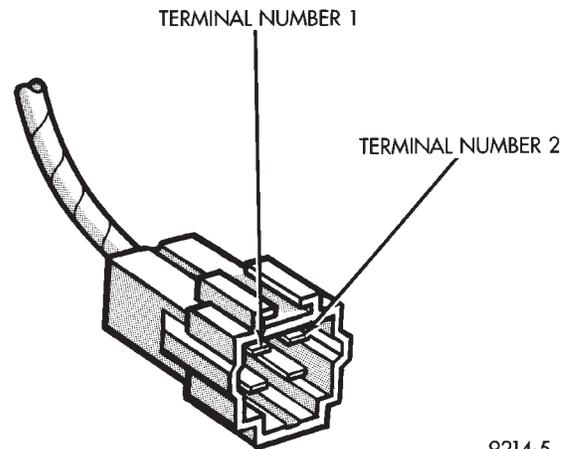

Fig. 2 Injector Harness Connector
- (c) Connect a jumper wire to ground terminal Number 1 of the injector harness (Fig. 2) to engine ground.
- (d) Connect a jumper wire to the positive terminal Number 2 of the injector harness (Fig. 2) and touch the battery positive post for no longer than 5 seconds. This releases system pressure.